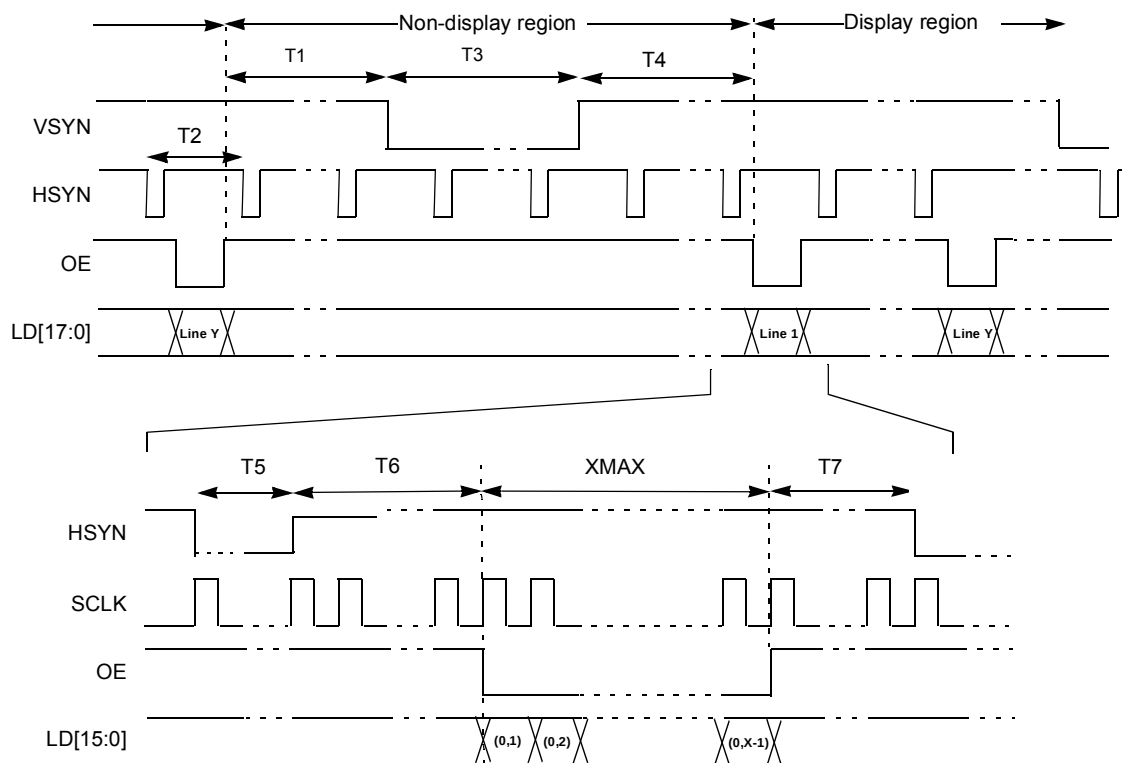

Figure 20. 4/8/12/16/18 Bit/Pixel TFT Color Mode Panel Timing
- VSYNC, HSYN and OE can be programmed as active high or active low. In Figure 20, all 3 signals are active low.
- SCLK can be programmed to be deactivated during the VSYNC pulse or the OE deasserted period. In Figure 20, SCLK is always active.